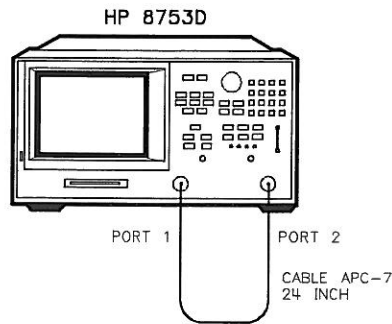

Figure 1-52. Receiver Harmonics Test Setup
- 19. Connect the equipment as shown in Figure 1-52.